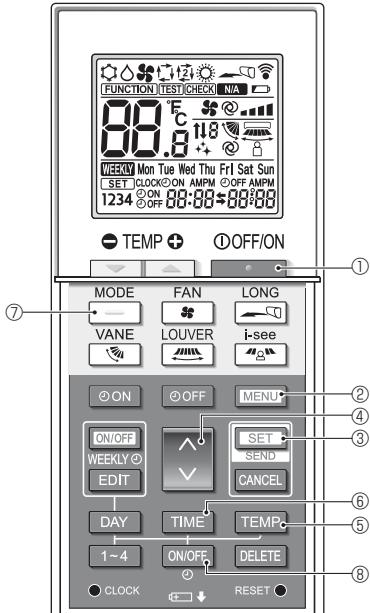
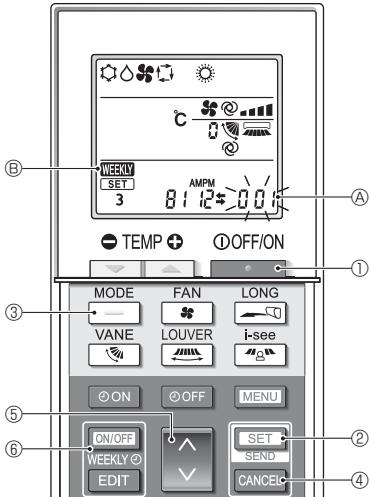

Fig. 4-10
Fig. 4-12
- Press the **OFF/ON** button ① to stop the air conditioner.
- Press the **MENU** button ②.
- The Function setting screen will be displayed and the function No. Ⓐ will flash. (Fig. 4-10)
- Check that function No. "1" is displayed, and then press the **SET** button ③.
- Press the **ON/OFF** button ⑧.
- Each time the **ON/OFF** button ⑧ is pressed, the setting switches between **on** and **off**.
- Press the **SET** button ③.
- The function No Ⓐ blinks (Fig. 4-10)
4.12.8. How to disable Auto mode operation (Fig. 4-12)
- If the weekly timer is enabled, press the **ON/OFF** button ⑥ to disable the timer. (**WEEKLY** Ⓑ disappears.)
- Press the **SET** button ② for 5 seconds.
- Press the **▼** button ④.
- Completing the settings (Fig. 4-12)